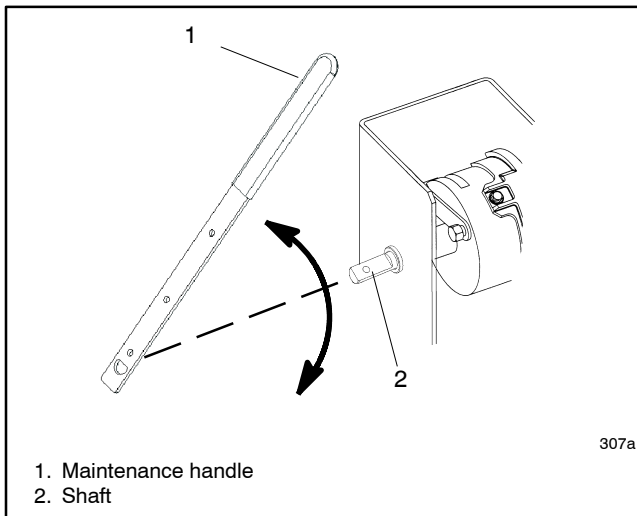
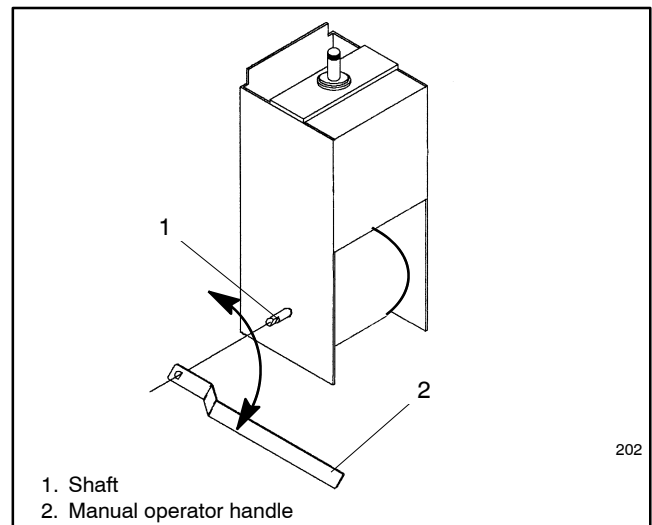

Figure 2-5 Manual Operation, 150-600 Amp Standard-Transition Switches
Figure 2-6 Manual Operation, 800-1200 Amp Standard-Transition Switches
- a. **150-1200 amp switches:** See Figure 2-5 or Figure 2-6. Attach the maintenance handle onto the shaft extension on the left side of the operator.